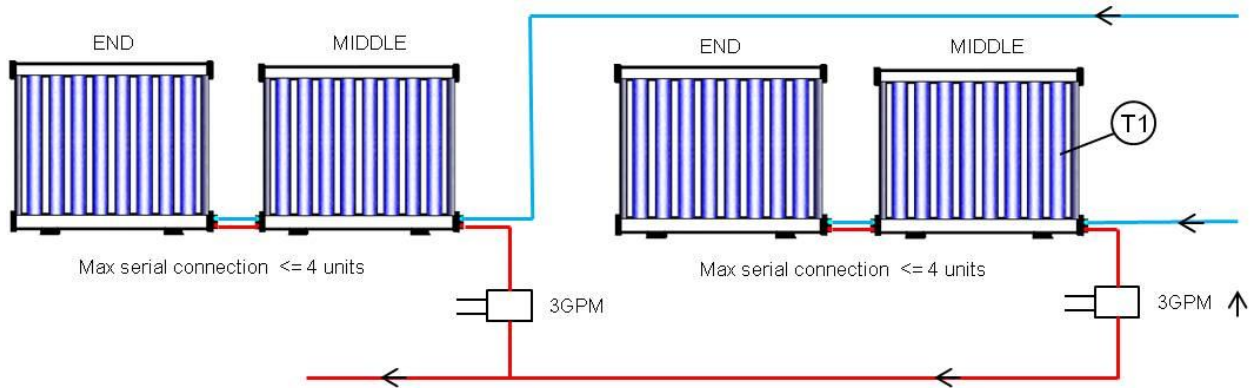

Figure 4.4: Commercial panel array installation showing a combination of serial and parallel connection.
4.3.1 **Panel Array:** A combination of serial and parallel connection will be applied in array panels of installation. Collector banks involve up to 4 collectors connected in series, and the collector banks are then connected in parallel. Ideally, all of the collector banks in an array should involve the same number of collector panels, as shown in Fig. 4.4.